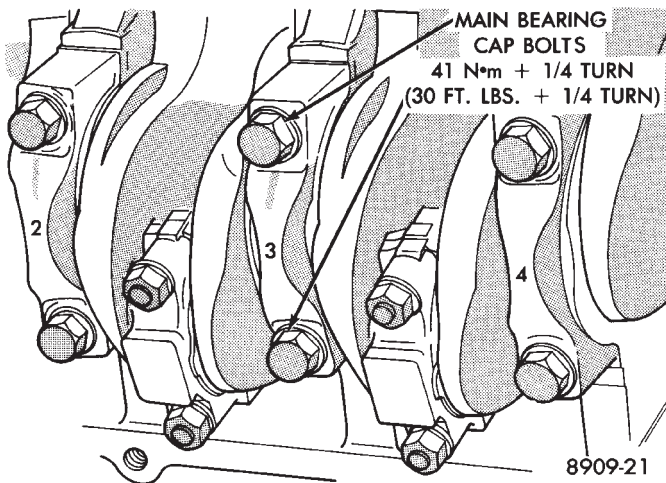

Fig. 14 Installing Main Bearing Caps
(7) Before installing the bolts the threads should be oiled with engine oil.
(8) Install both bolts in each cap finger tight, then alternately torque each bolt to assemble the cap properly.
(9) Tighten the bolts to 41 N·m plus 1/4 turn (30 ft.lbs. plus 1/4 turn). (Fig. 14)